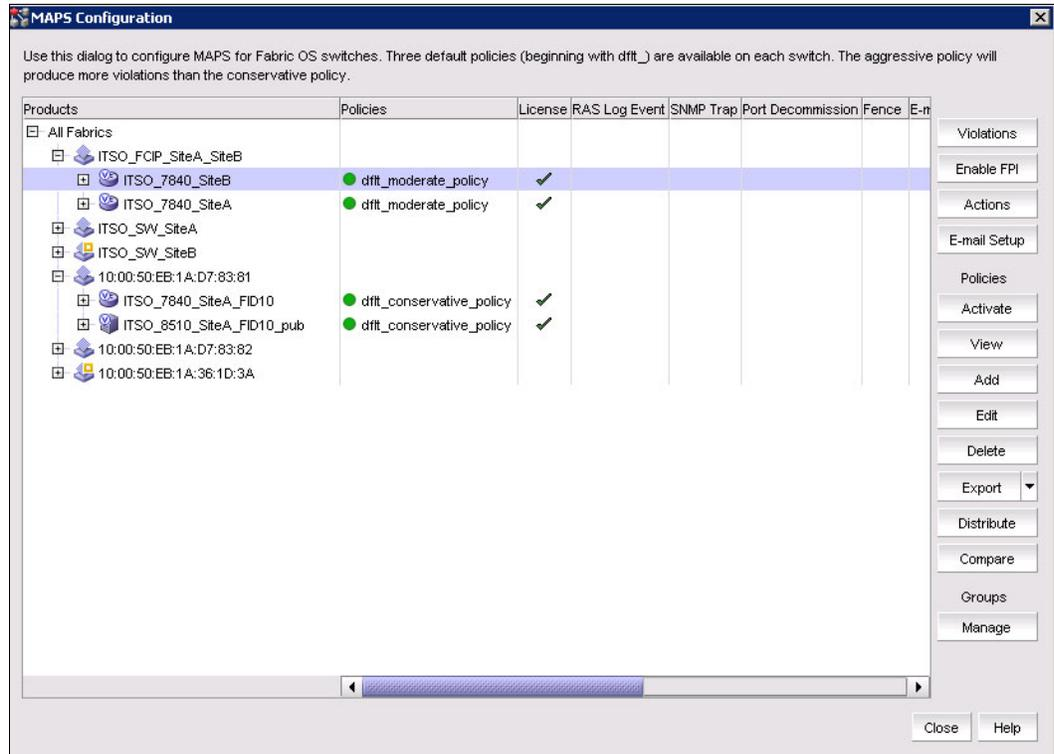

Figure 7-4 Dialog box for MAPS configuration
2. The MAPS Configuration dialog box displays (Figure 7-4 on page 218).
1. Right-click a device in the Product List or Connectivity Map and select **Fabric Vision** → **MAPS** → **Configure**. The **MAPS configuration** window is displayed (Figure 7-4 on page 218).
- Right-click a device in the Product List or Connectivity Map and select **Fabric Vision** → **MAPS** → **Configure**. The MAPS configuration window is displayed (Figure 7-4 on page 218).
1. Right-click a device in the Product List or Connectivity Map and select **Fabric Vision** → **MAPS** → **Configure**. The MAPS configuration window is displayed (Figure 7-4 on page 218).